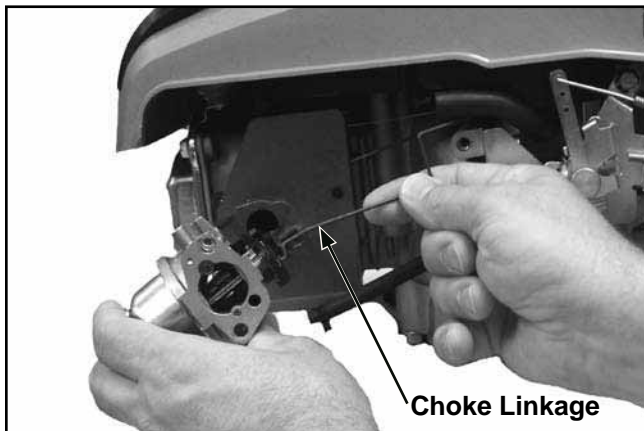

Figure 8-18. Disconnecting Choke Linkage.
4. Rotate the carburetor until the choke linkage can be disconnected from the carburetor. See Figure 8-18.